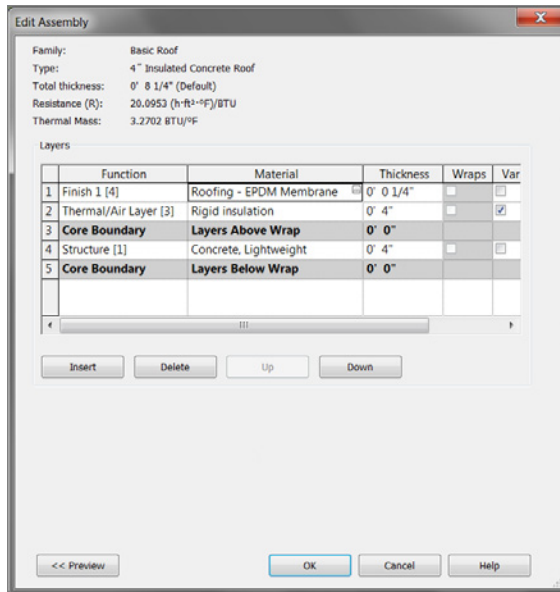

FIGURE 7.6: The completed roof system
21. Change Thickness to 1/4" (6mm), as shown in Figure 7.6.